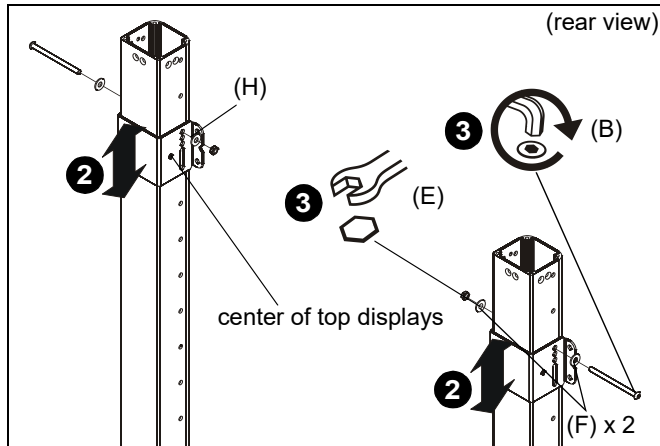

Figure 1
2. Place clamp brackets (H) on columns in the position of where the center of the top displays will be on the cart with the diamond on the brackets being placed at the exact center location. (See Figure 1)
3. Use 5/16-18 x 4 1/2" button head cap screw (B), two 5/16" washers (F) and 5/16-18" lock nut (E) to secure each clamp bracket (H) to column. (See Figure 1)